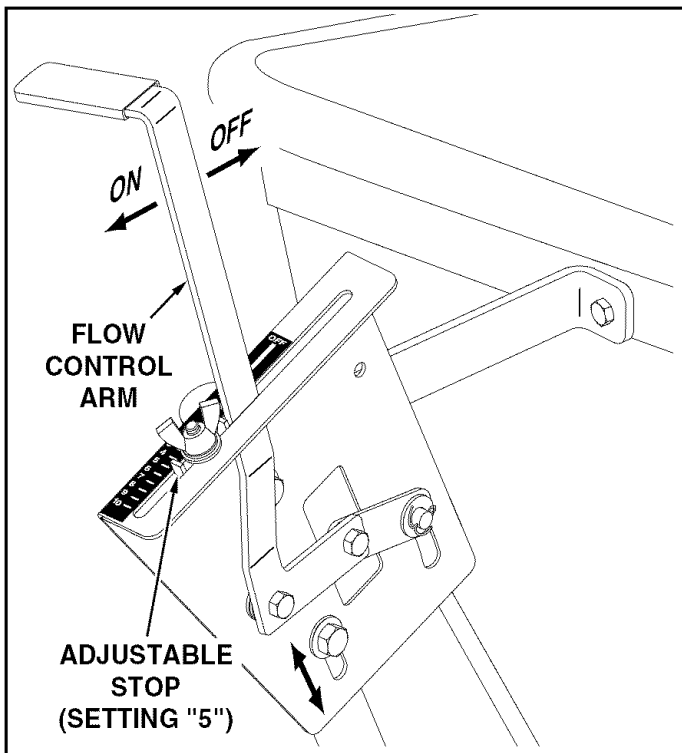

FIGURE 12
- Position the flow control mounting bracket (figure 12).
(Refer to figure 12 on page 9.)